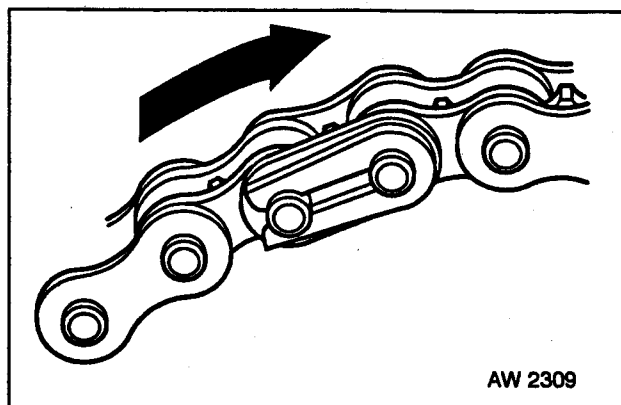
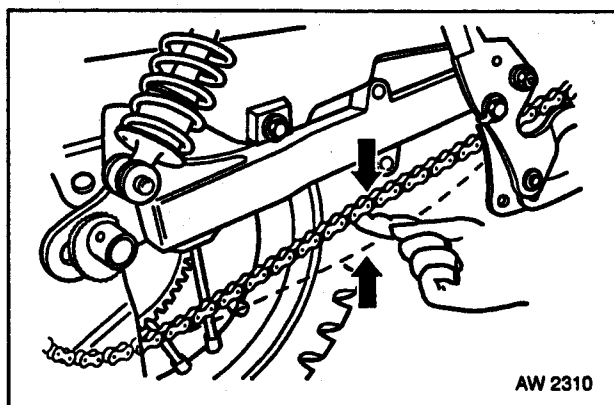

Fig 11.11 Master Link Clip Installation
Fig 11.12 Chain Free Play (Gun Carrier removed for illustration)
- Refit in reverse order, ensuring equal chain adjustment as in Fig 11.12. Fit new split pin, and ensure chain split link is correctly assembled (Fig 11.11). Check rear brake for operation.
- c. At installation ensure the master link clip is fitted with its closed end facing the direction of chain travel (Fig 11.11 refers).
- c. Adjust rear wheel position by means of snail cams to give a free play in the chain of 40-50 mm (1.6-2") measured at the centre of its run (Fig 11.12 refers).